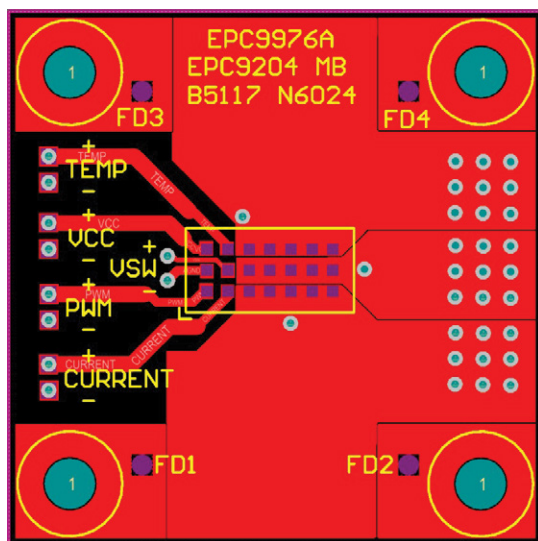

Figure 7: Top layer without filled thermal vias.
1. Large copper planes should be connected to the evaluation board to improve thermal performance as shown in Figures 7 and 8. If filled vias are used in the board design, thermal vias should be placed under the device to better distribute heat through buried inner layers. For a design without filled vias, thermal vias should be located outside of the evaluation board.